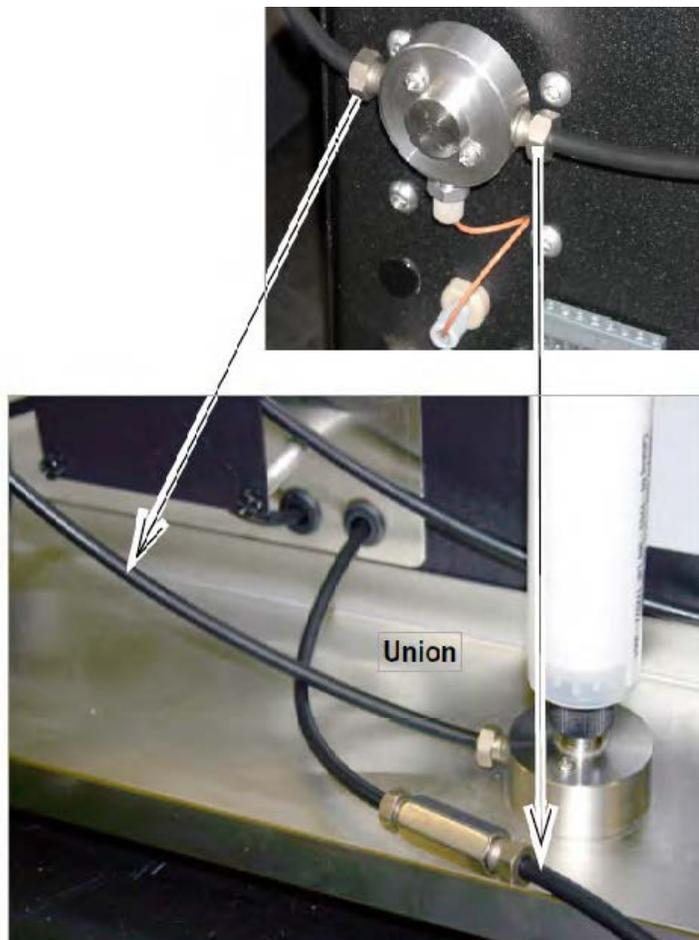

Figure 2-11 Tee fitting for Torrent ELSD
3. Locate the 6" piece of tubing. Attach one end to the bottom of the metal tee fitting and the other end to the ELSD liquid inlet (refer to Figure 2-11). Tighten fittings to finger, tight.